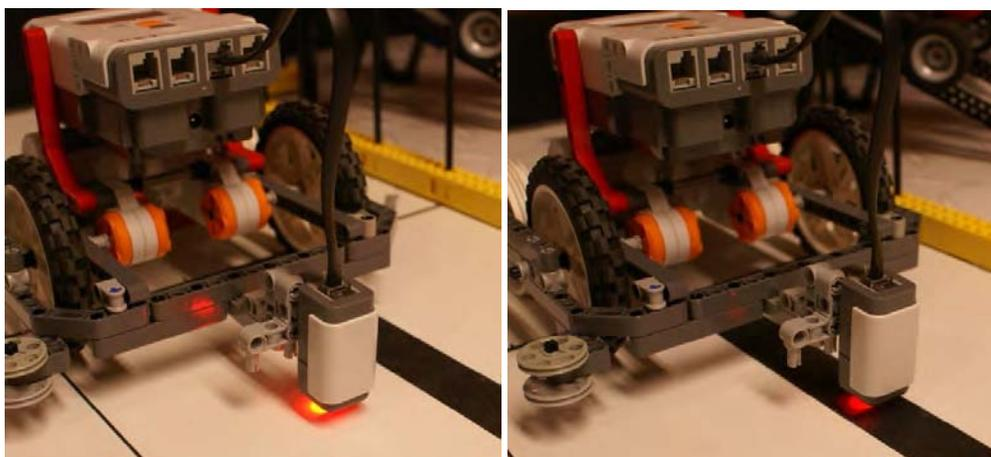

Figure 5-4. Calibrating the DemoBot light sensor over a light area then over a black line
1. Hold the robot's light sensor over a light area of the field (on a white or very light color), as shown in the left-hand side of Figure 5-4.
4. Move the robot's light sensor to a dark area of the field (the darker the better), as shown in the right-hand side of Figure 5-4.